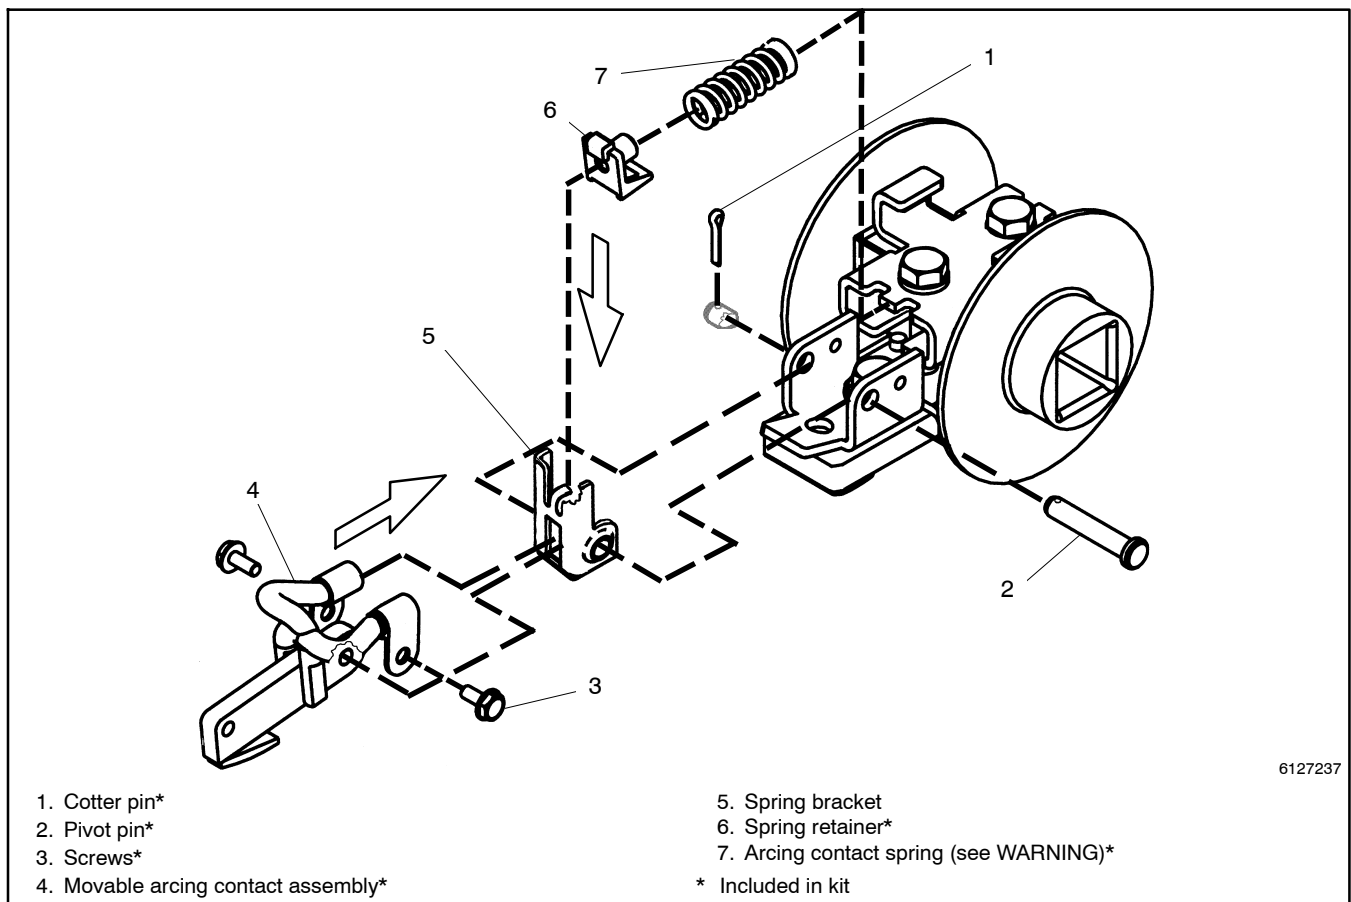

Figure 8-10 Movable Arcing Contact Assembly
3. Disconnect the movable arcing contact shunts. Use a 5/16 in. open-end or box wrench to remove two SEMS screws that secure the movable arcing contact shunts to the pivot bracket. See Figure 8-10.
4. Remove the pivot pin from the pivot bracket. Use needlenose pliers to straighten and remove the cotter pin that secures the pivot pin. Then remove the pivot pin, spring bracket, and movable arcing contact. See Figure 8-10.
5. Install the new movable arcing contact. Install the new spring bracket into the pivot bracket. Then insert the new movable arcing contact into the slot of the spring bracket. Next insert the new pivot pin through the pivot bracket, spring bracket, and movable arcing contact. Install the new cotter pin into the end of the pivot pin (spread or bend the cotter pin to secure the assembly). See Figure 8-10.
connect the two shunts of the new movable arcing contact to the pivot bracket. Tighten the screws with a 5/16 in. open-end or box wrench. See Figure 8-10.
7. Install the new movable arcing contact spring. Install the new spring retainer onto the tab on the spring bracket. Then use a screwdriver (or spring compressor) to carefully install the new movable arcing contact spring between the spring retainer and the tab on the shaft clamp. See Figure 8-10.